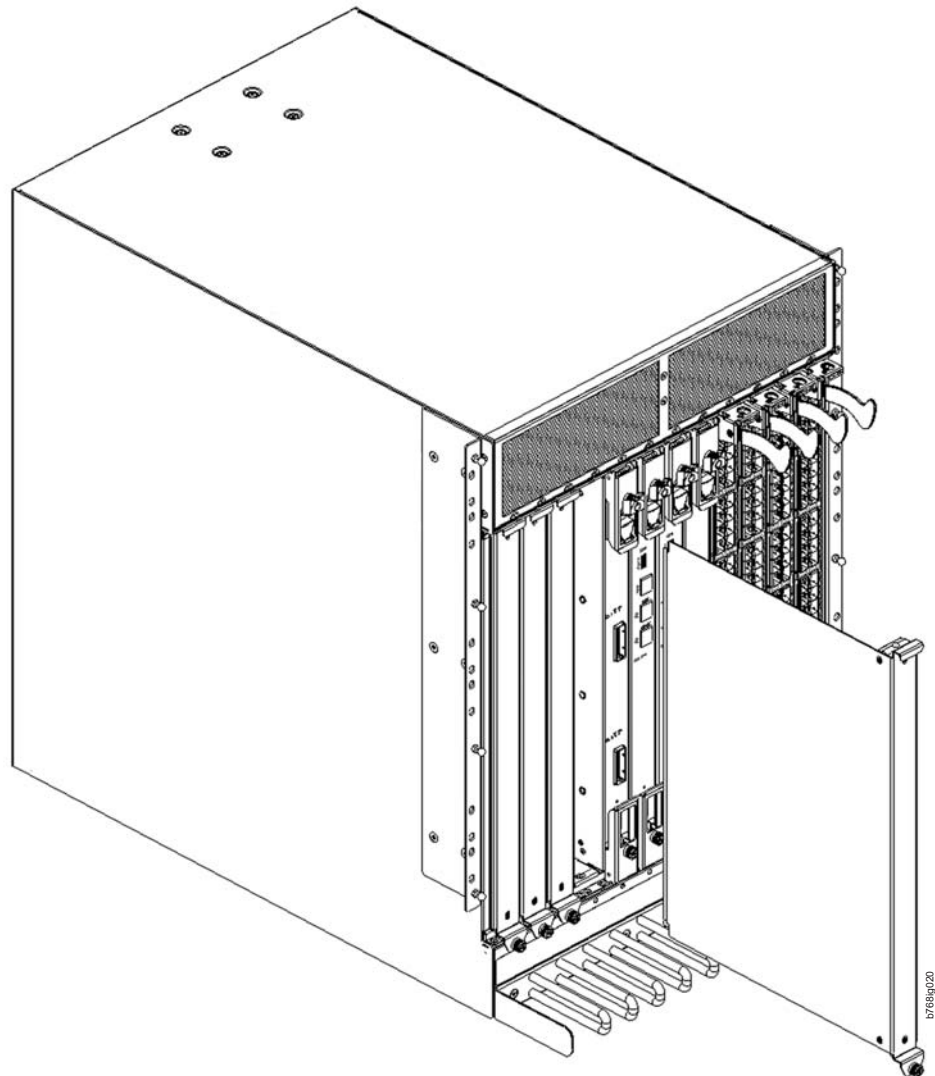

Figure 30. Filler panel removal and installation
3. Pull the filler panel out of the chassis. (See Figure 30.)